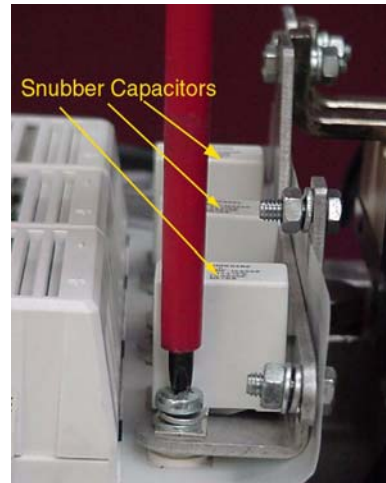

Figure 6-10 Snubber Capacitor Removal
2. Remove the six Phillips-head screws and washers that secure the three snubber capacitors (see Figure 6-10), and remove the snubber capacitors.